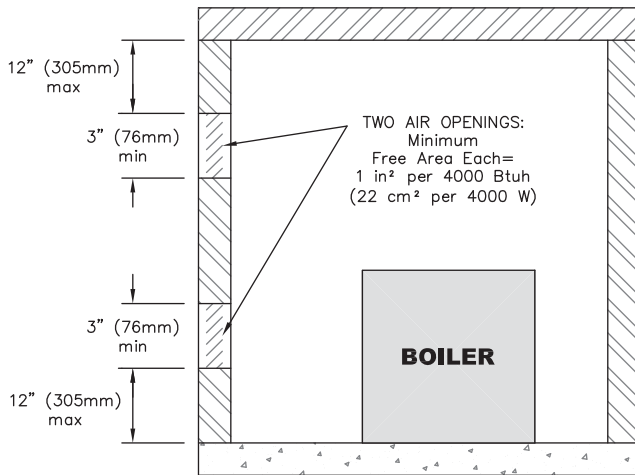
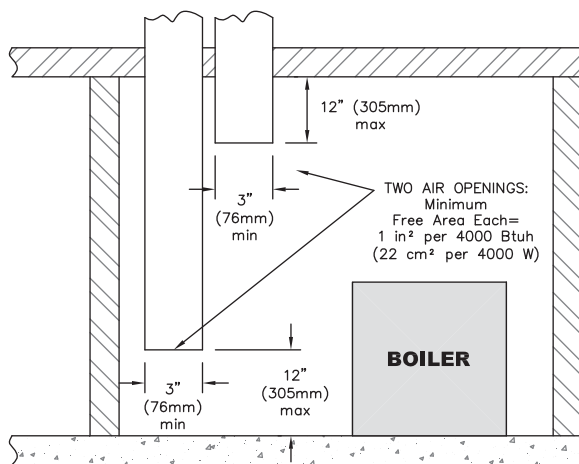

Figure 1.3: Air Openings – All Air Directly from Outdoors
Figure 1.4: Air Openings – All Air from Outdoors through Vertical Ducts
i. Where communicating directly or through vertical ducts with the outdoors each opening shall have a minimum free area of 1 in² per 4000 Btu/hr (22 cm² per 4000 W) of total input rating for all equipment in the space. See Figure 1.3 for openings directly communicating with the outdoors or Figure 1.4 for openings connected by ducts to the outdoors.